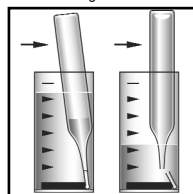

Figure 2
For improved accuracy with colored samples, Sample Zeroing Accessory Pack, Cat. # A-0503 is available for use with **CHEMetrics Photometers only**. Using the sample cup, snap the tip of the A-0503 ampoule in sample (see figure 2 below). Invert the ampoule to mix. Dry the ampoule and use it in place of the supplied ZERO ampoule to zero the photometer.
3. Place the Vacu-vial ampoule, tip first, into the sample cup. Snap the tip. The ampoule will fill leaving a bubble for mixing (fig 2).